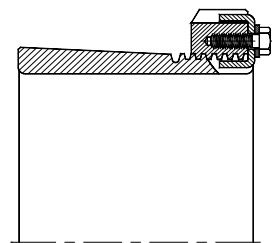

Fig. 2.23
- c) **Adapter sleeves, washers and locking nuts (fig. 2.23)**